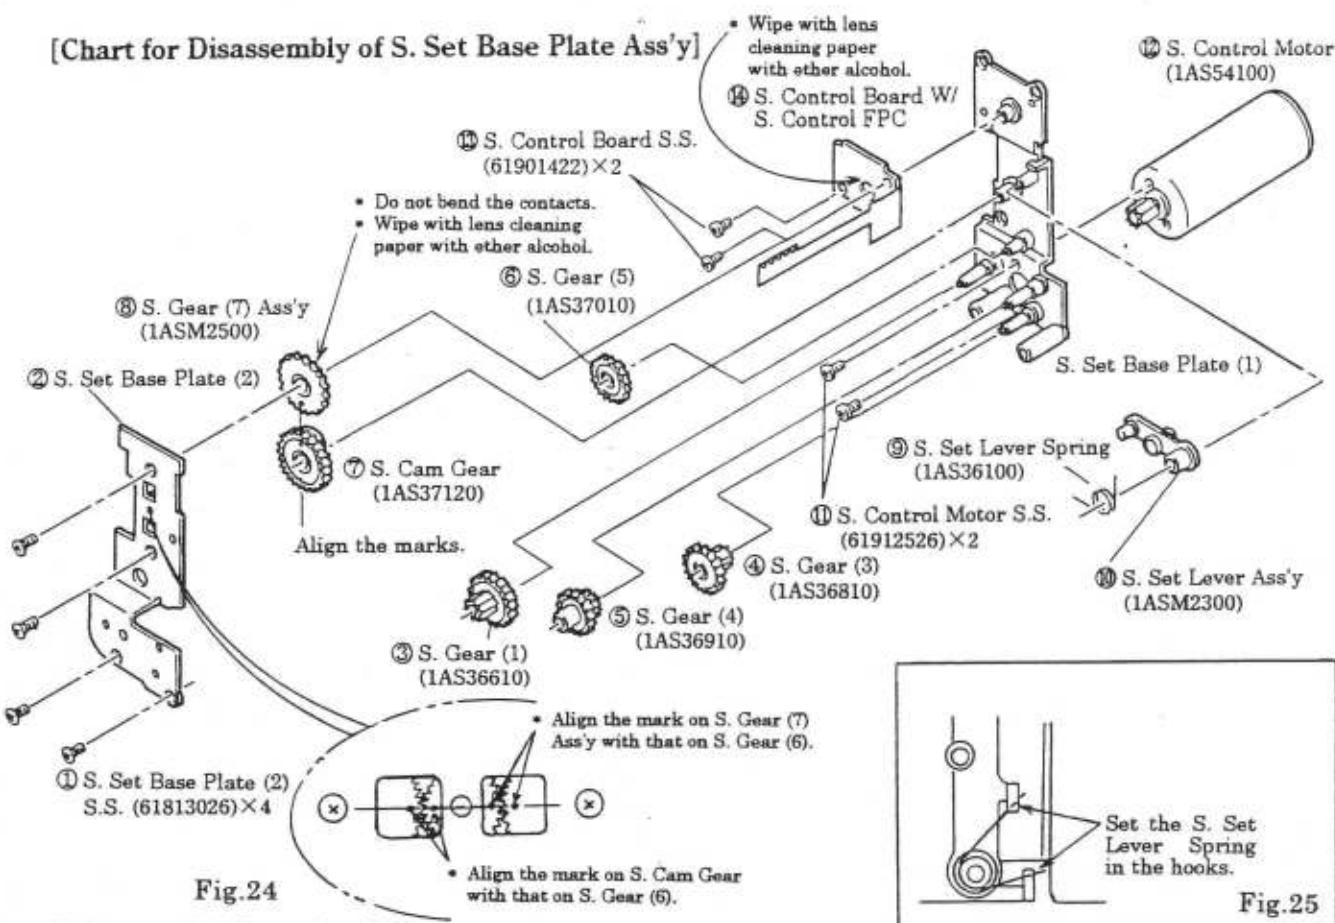
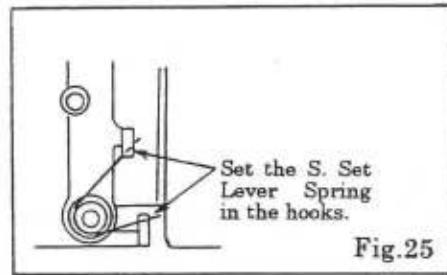

Fig.24
Fig.25
- 1) Remove parts in the numerical order of ① to ⑭ shown in Fig. 24.
- As shown in Fig. 25, set the S. Set Lever Spring (1AS36100) in the hook of the S. Set Lever and the hook of the S. Set Base Plate (1).
- Take care not to bend the contacts of the S. Gear (7) Ass'y (1ASM2500). Also wipe the contacts with lens cleaning paper with ether alcohol.
- Install the S. Gear (7) Ass'y (1ASM2500) and S. Cam Gear (1AS37120) so that their positioning marks are aligned. Also install the S. Set Base Plate (2) so that the positioning mark on the S. Gear (6) of the S. Set Base Plate (2) is aligned with the positioning marks on the S. Gear (7) Ass'y and S. Cam Gear. (See Fig. 24)